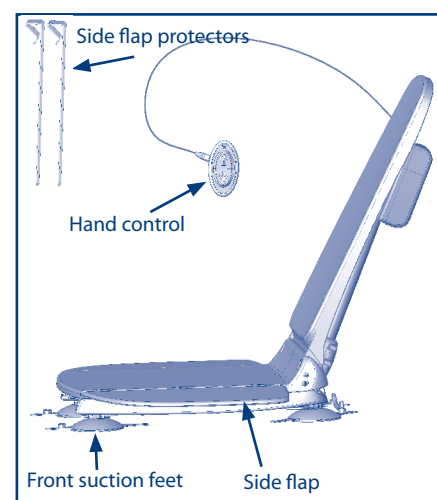
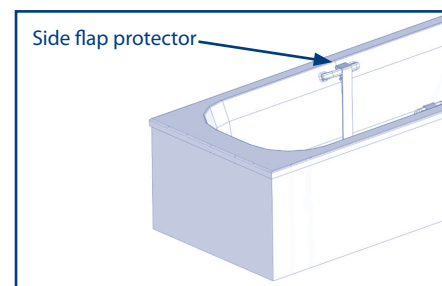

Figure 1
Figure 5
- A bath lift, complete with two side flaps and hand control attached. (see fig 1)
- Side flap protectors x 2 (see fig 1)
- iv) It is essential that the side flaps do not catch under any obstructions such as bath handles, handrails or soap dishes, when rising. If your bath has handles, fit the side flap protectors to them (see fig 1 and fig 5) to prevent the side flaps from catching.